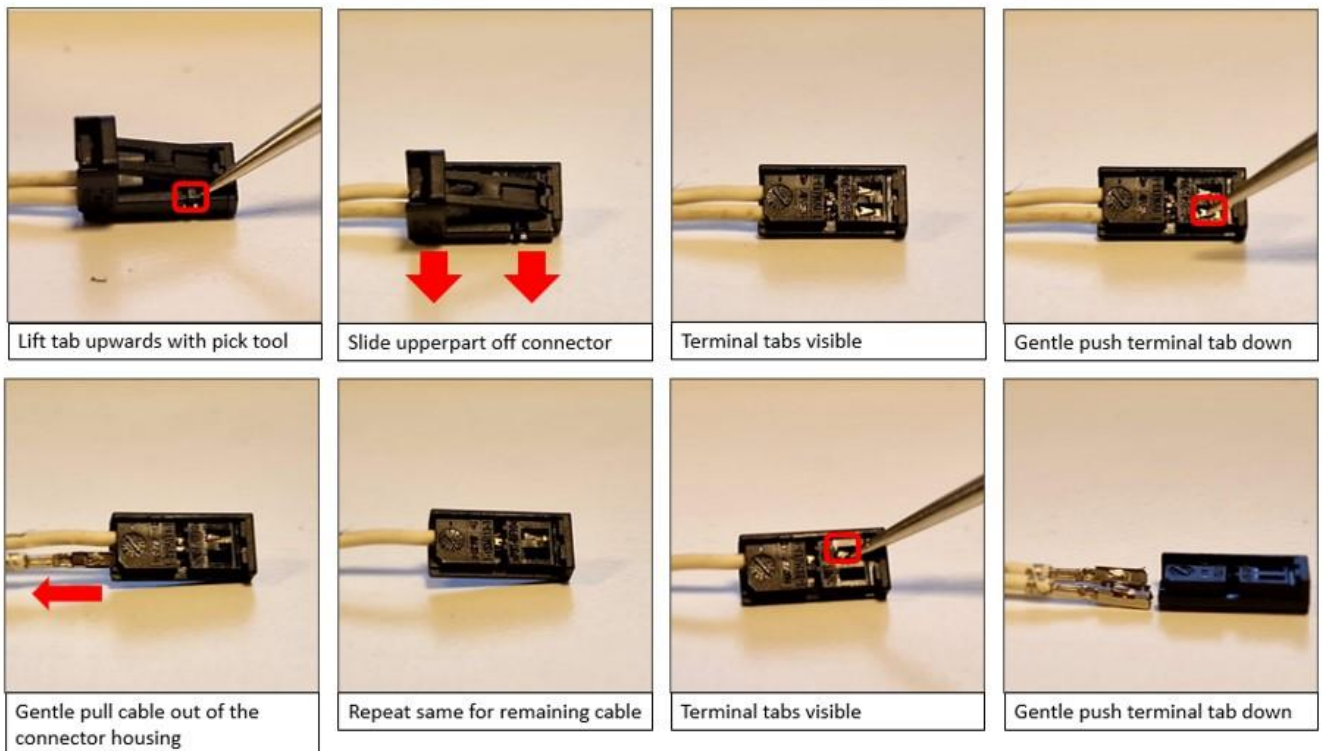

Figure 12
15. Release the terminals from the positive pack contactor switch connector (Figure 12).